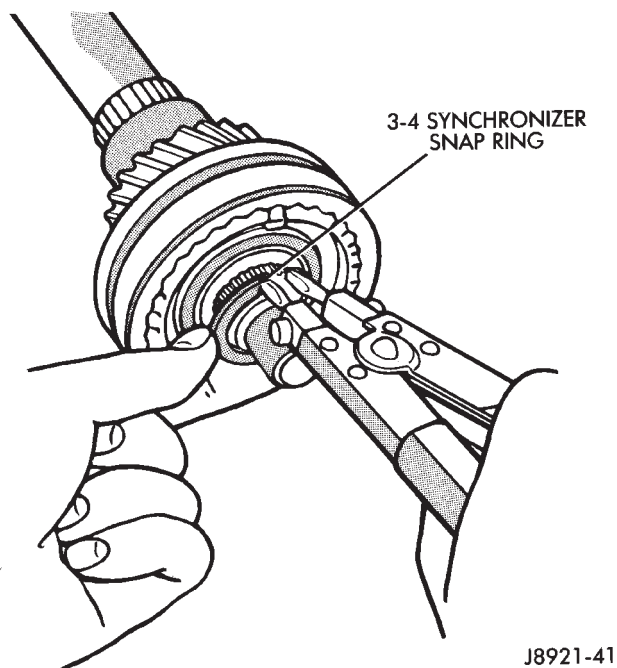

Fig. 33 Removing 3-4 Synchronizer Snap Ring
(19) Remove needle roller bearing from the shaft or second gear.
(20) Remove 3-4 synchronizer snap ring (Fig. 33).